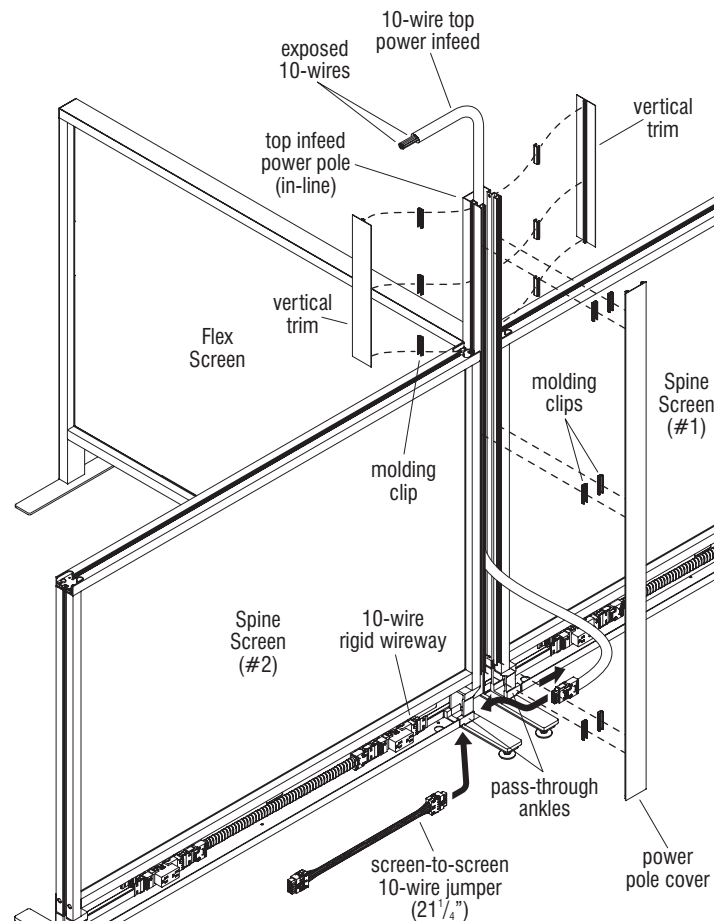

Figure 14
8. Determine the length of both vertical trim by measuring the distance from the ceiling to the top of the Spine Screen frame. Cut the vertical trim to the marked lengths (Figure 14).
9. On the rib side of the vertical trim, space molding clips evenly apart and press them onto the ribs of the vertical trim as illustrated (Figure 14 & Detail W).
10. Place the 10-wire top infeed conduit inside the power pole and route the plug end of the infeed down through the pass-through ankle and plug it into the end of the 10-wire rigid wireway (Figure 14).
11. Push the 10-wire end of the power infeed up and through the top of the power pole and into the above-ceiling area for later connection to the source power (by a certified electrician)(Figure 14).
12. Determine the length of the top infeed power pole cover by measuring the distance from the ceiling to the floor at the side of the infeed power pole. Cut the cover square to the marked length (Figure 14).
13. On the rib side of the power pole cover, space molding clips evenly apart and press them onto both ribs on the cover (Figure 14 & Detail X).
14. Position the power pole cover with molding clips up against the opening side of the end-of-run top infeed power pole. Using a firm hand, press on the trim at the molding clip locations to snap into the power pole cover channel (Figure 14 & Detail X).